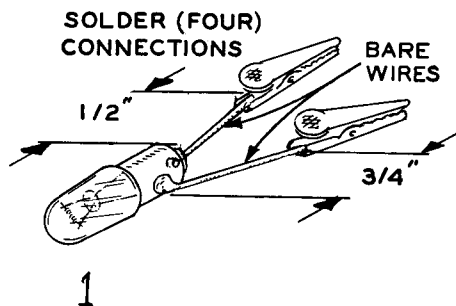

Figure 3
- () Construct a dummy load for the transmitter as shown in Figure 3. Use bare wire for the leads.